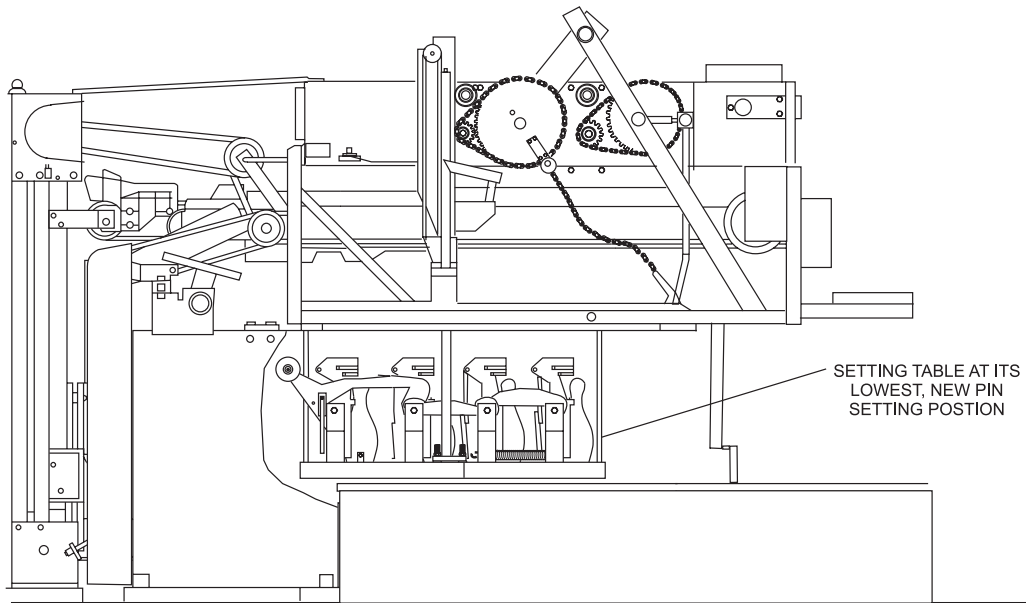

Figure 2
1. Lower the setting table to its lowest, new pin, setting position. Refer to Figure 2.